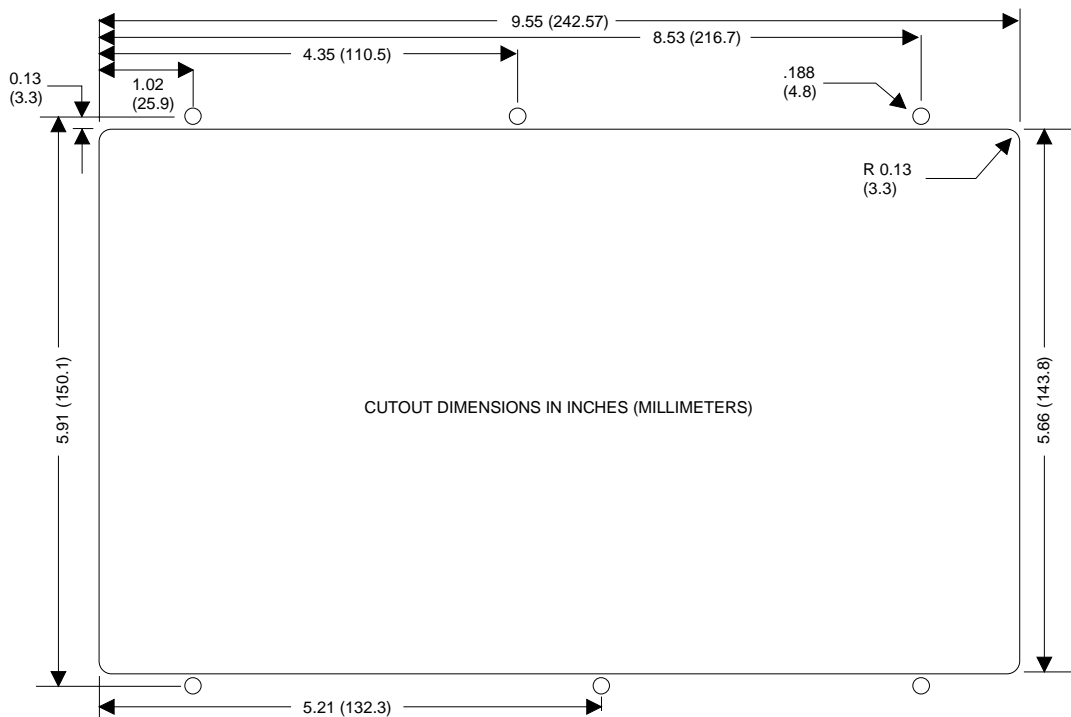

Figure 22, Keypad Mounting Cutout Dimensions
- 1) Make the panel cutout as shown in Figure 22.